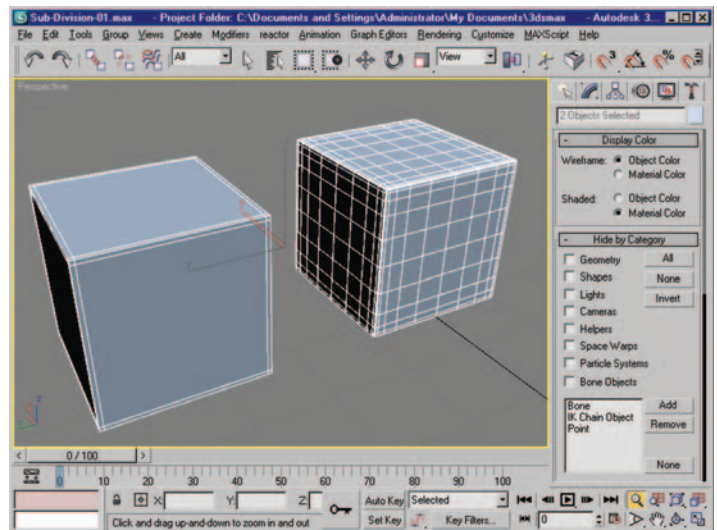

Figure 6.14 Base mesh with new edges and the subdivided result.
9. Repeat the last steps with the same Connect Edges value in two other directions to complete our base mesh. Turn on TurboSmooth to see the end result. Figure 6.14 shows the base mesh with additional connects and the subdivided result.